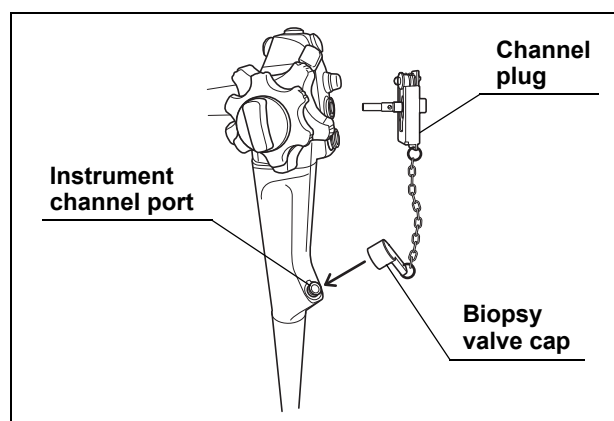

Figure 5.34
3. Attach the channel plug (MH-944) and the injection tube (MH-946) to the endoscope and immerse in the disinfectant solution. (See Figure 5.34, 5.35, and 5.36)
1. Attach the channel plug (MH-944) and the injection tube (MH-946) to the endoscope. (See Figure 5.34 and 5.35)